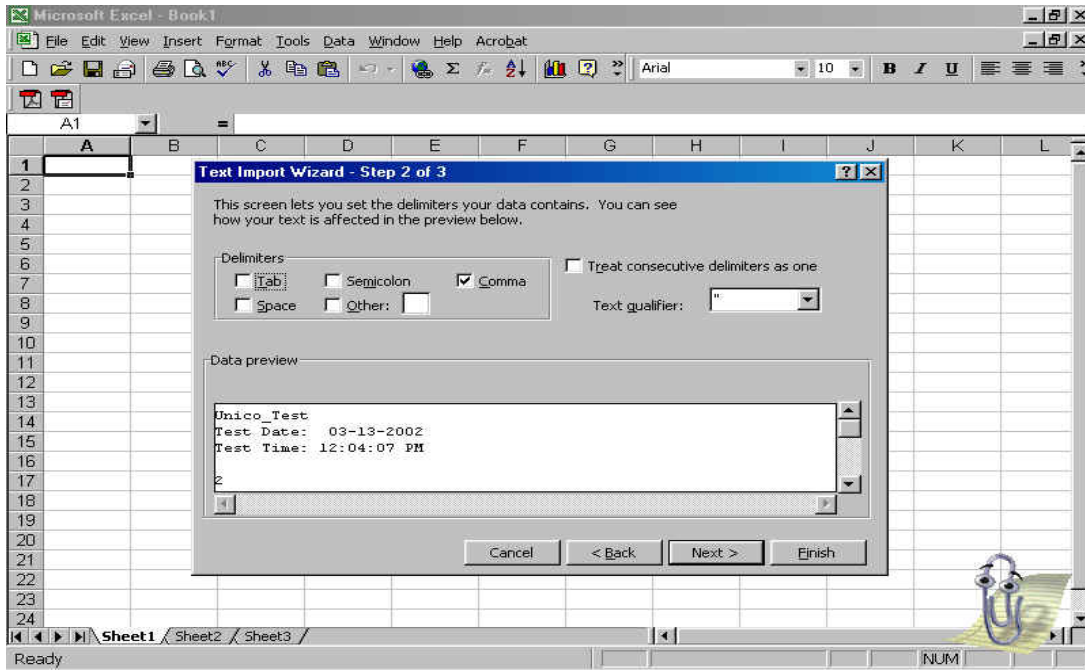

Figure-42 Excel Text Import Wizard II
- Step 4: Uncheck the **Tab** delimiter and select **Comma** delimiter as shown in Figure-42, then click the **Next** button.